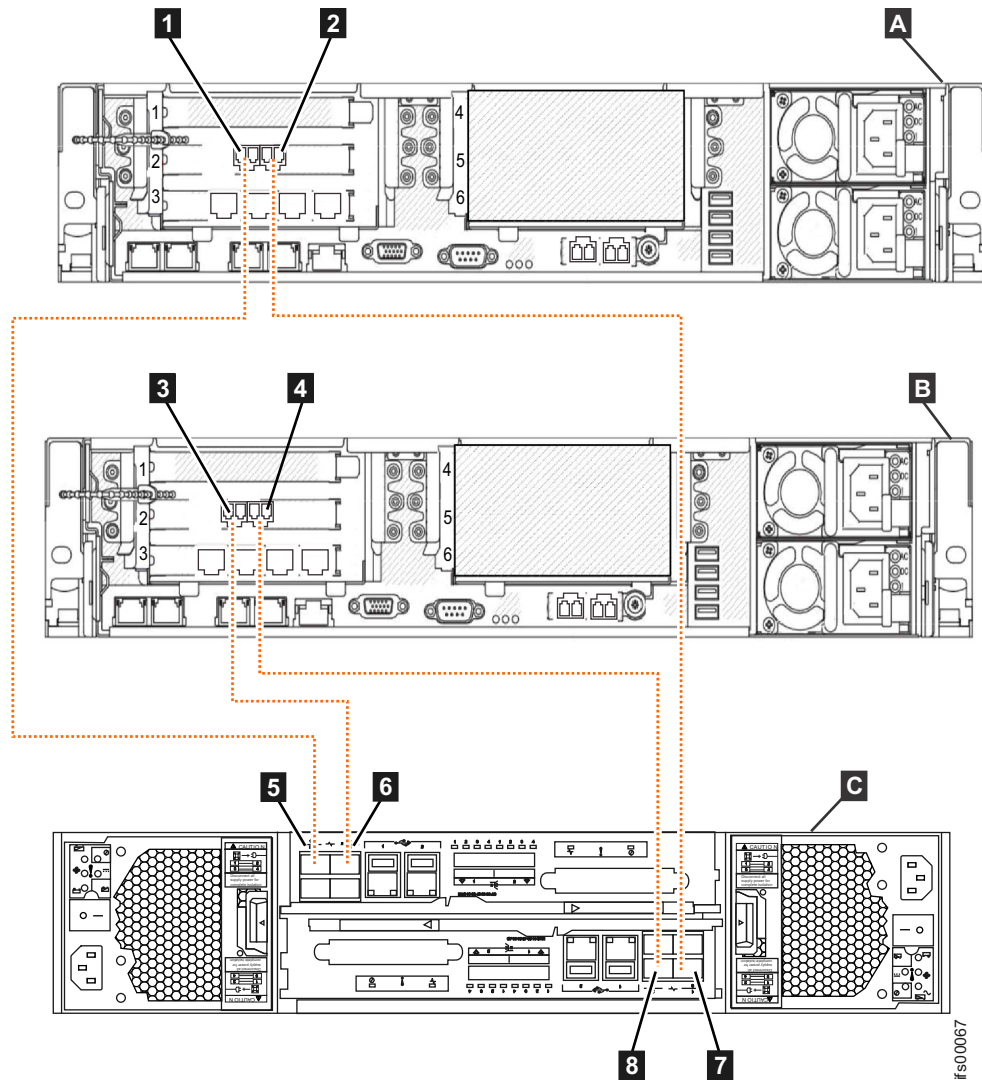
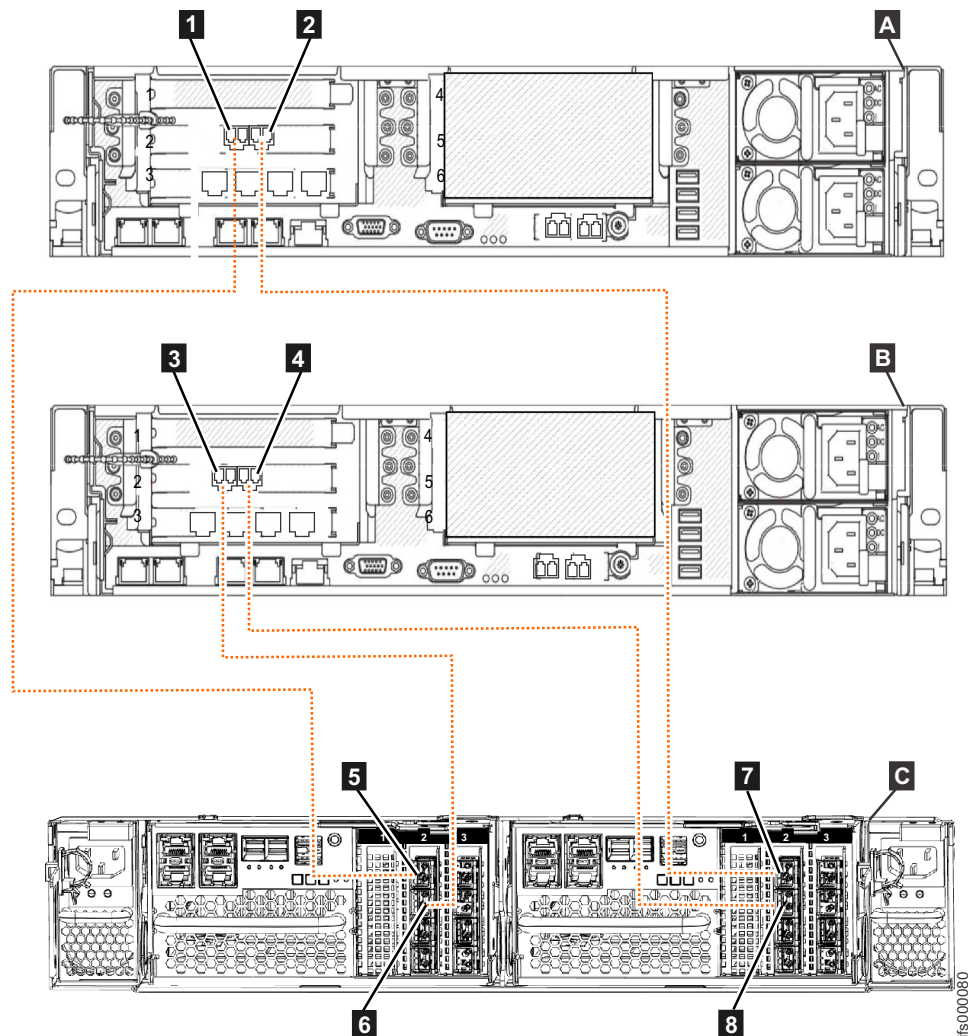

Figure 55. Connecting the file modules to the Storwize V7000 Gen1 control enclosure using Fibre Channel cables
Figure 56. Connecting the file modules to a Storwize V7000 Gen2 control enclosure that has a Fibre Channel interface adapter in PCI slot 2 of each node canister
- Before you continue, make sure that you have connected the Fibre Channel cabling as shown in Figure 55 on page 96 or Figure 56 on page 97 to ensure proper redundancy. Incorrect cabling may result in a loss of service during system maintenance procedures.